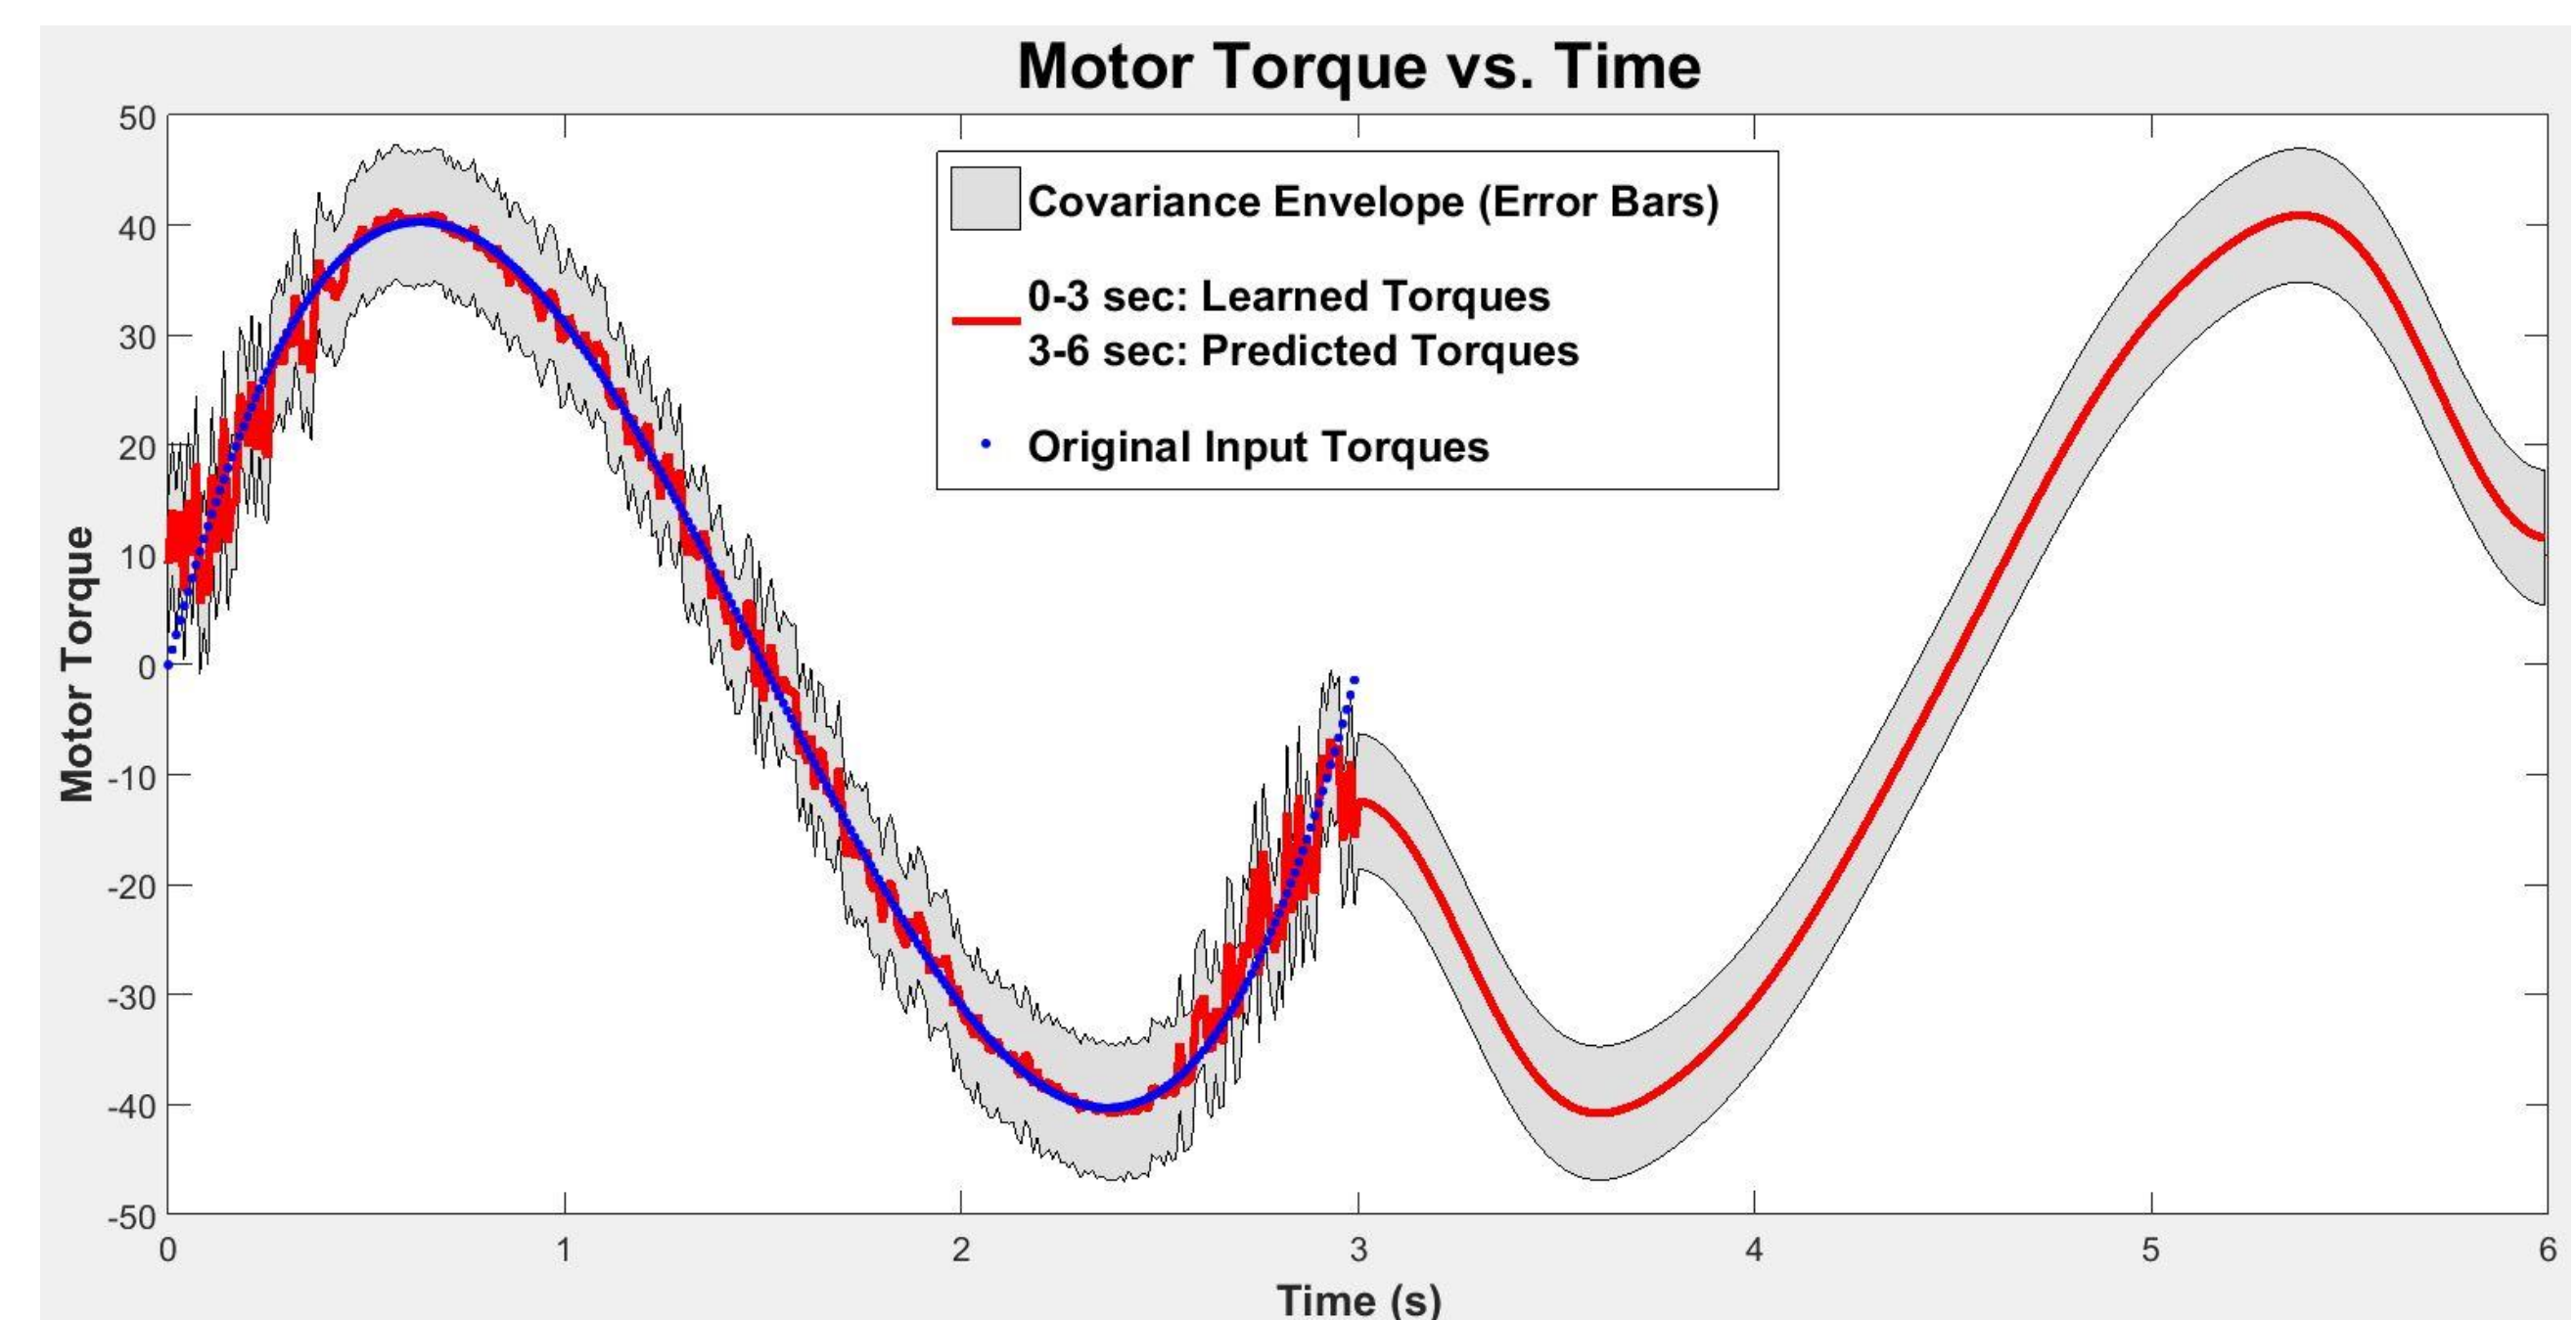

Figure 2: GPR Learning Model for Pendulum Torque
- Use torques, angular positions, and angular velocities from a simulation (taking pendulum from 0 to π radians) to train the GPR algorithm so that it learns the system model (*Figure 2*, 0-3 seconds).
- GPR learned the inverse dynamics of the pendulum by using the relationship between the torques and the positions and velocities, then calculated the torque required to achieve new positions and velocities (*Figure 2*).